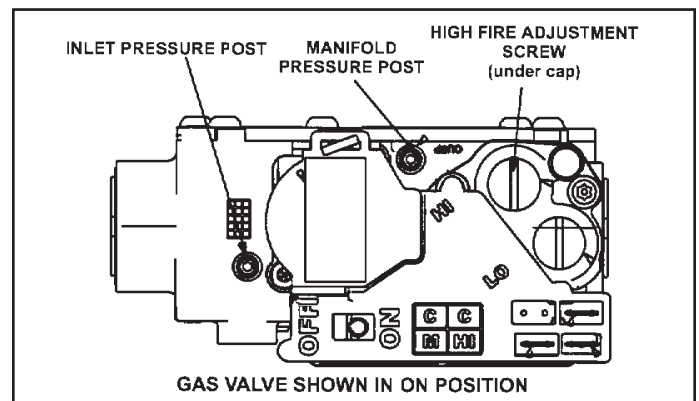

Figure 63. Gas Valve Shown in ON Position
6. Move gas valve switch to OFF. See Figure 63.
8. Move gas valve switch to ON. See Figure 63.
- A manifold post located on the gas valve provides access to the manifold pressure. See Figure 63. Back out the 3/32 Hex screw one turn, connect a piece of 5/16" tubing and connect to a manometer to measure manifold pressure.